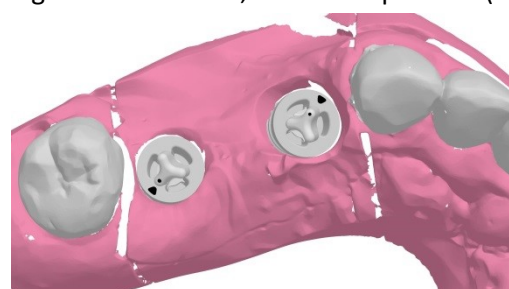
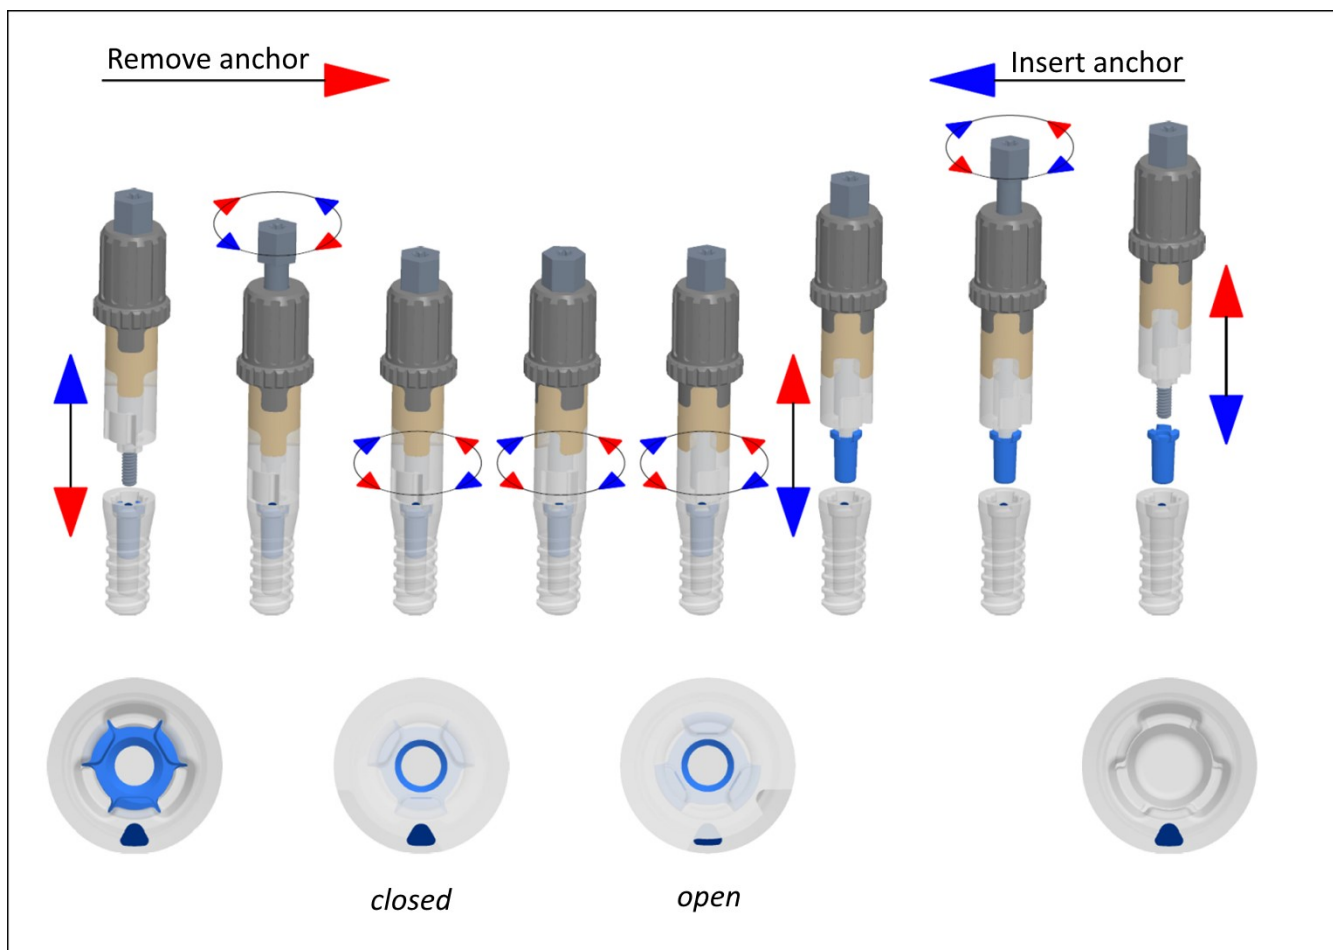
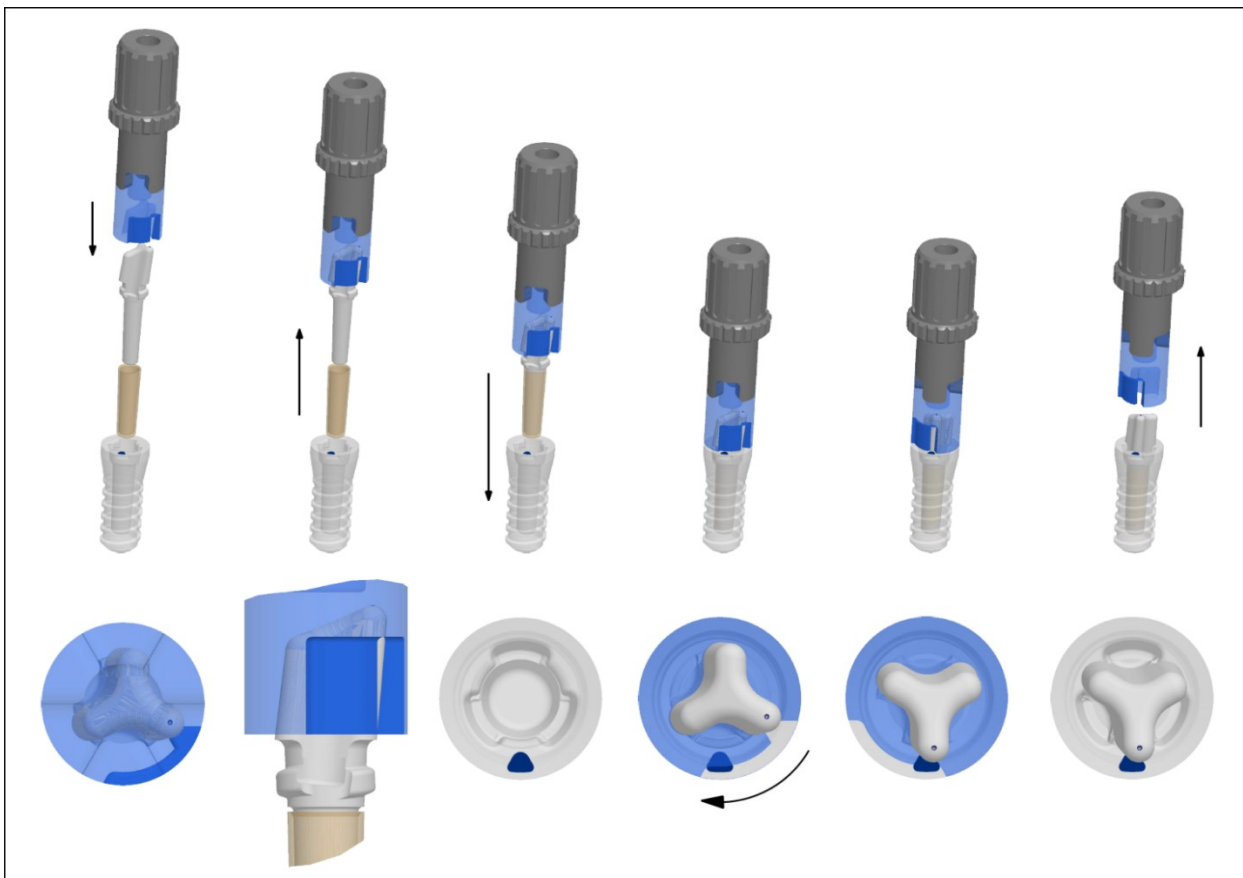

Abb. 3.6-10 Abutment in Endposition
Fig.: 3.7-01
Fig.: 3.8-01
- Attaching the anchor unscrewing tool and screwing in the coupling bolt for a firm coupling to the anchor part, see Fig. 3.7-01.
- If the **triangle mark** on the top of the implant shoulder is partially concealed on the left edge of the viewing window in the viewing window, the anchor unscrewing tool can be pulled out with the lever part unlocked, see Fig. 3.7-01.
Insertion of the abutment and sleeve using the supplied coupling parts and screw-in tools (please note: the mark must be completely visible in the viewing window (see Fig. 3.8-01)!
2. Reinsertion of the anchor parts, see Fig. 3.8-01 → Implementation in reverse order!
The colour marking on the implant shoulder is a new development. It serves as a guide for the insertion of auxiliary parts and definitive prosthetic parts. With the help of coupling parts, for example, abutments are brought into the correct position. In the viewing window, it is then clearly visible when the correct position of the abutment has been achieved with a 60° rotation, see also Figs. 3.6-05 to Figs. 3.6-10 and also Figs. 3.8-01. It is important that this is done exactly. The use of magnifying glasses is recommended. An instrument with a viewing window display is also available for the anchor part, see Fig. 3.7-01.